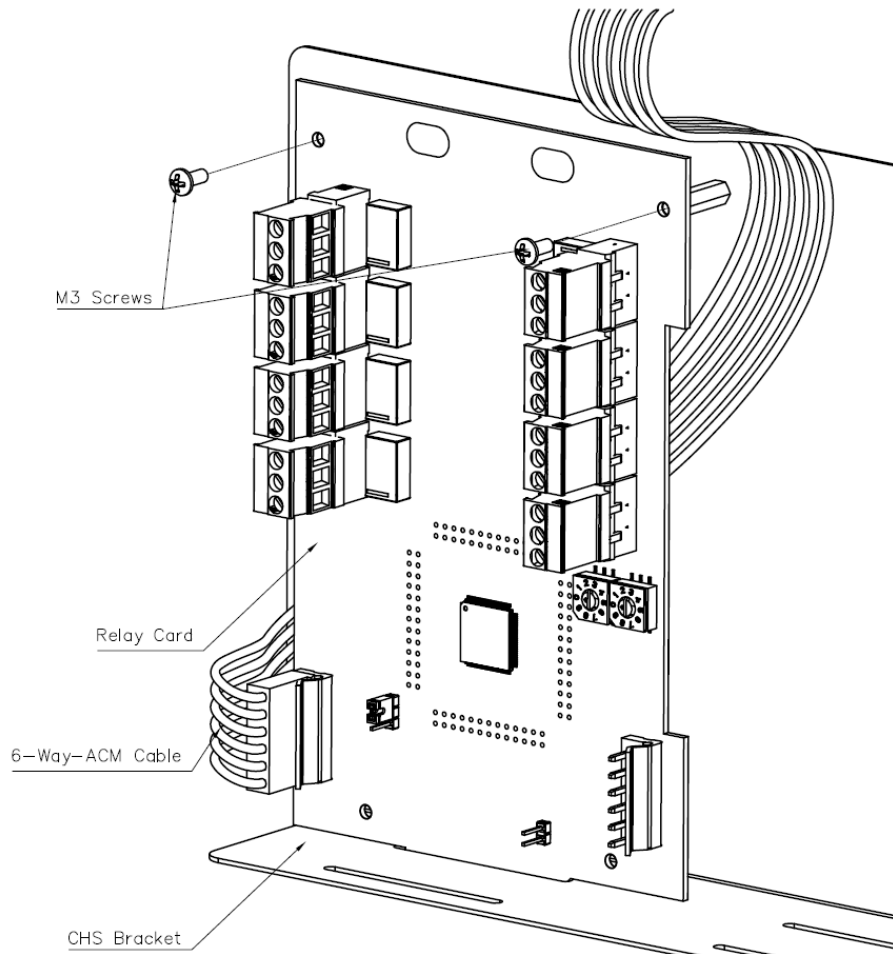

Figure 2-2 – Securing ACM-8RA
5. Secure the ACM-8RA to the CHS bracket using screws (#GEN-01-001) (Figure 2-2 – Securing ACM-8RA).
6. To connect the ACM-8RA to the ACM socket the ACM cable (#CA-01-020) we recommend that the ACM cable is passed behind the Relay Card and connected to the ACM header on the left hand side, as shown in Figure 2-2 – Securing ACM-8RA .